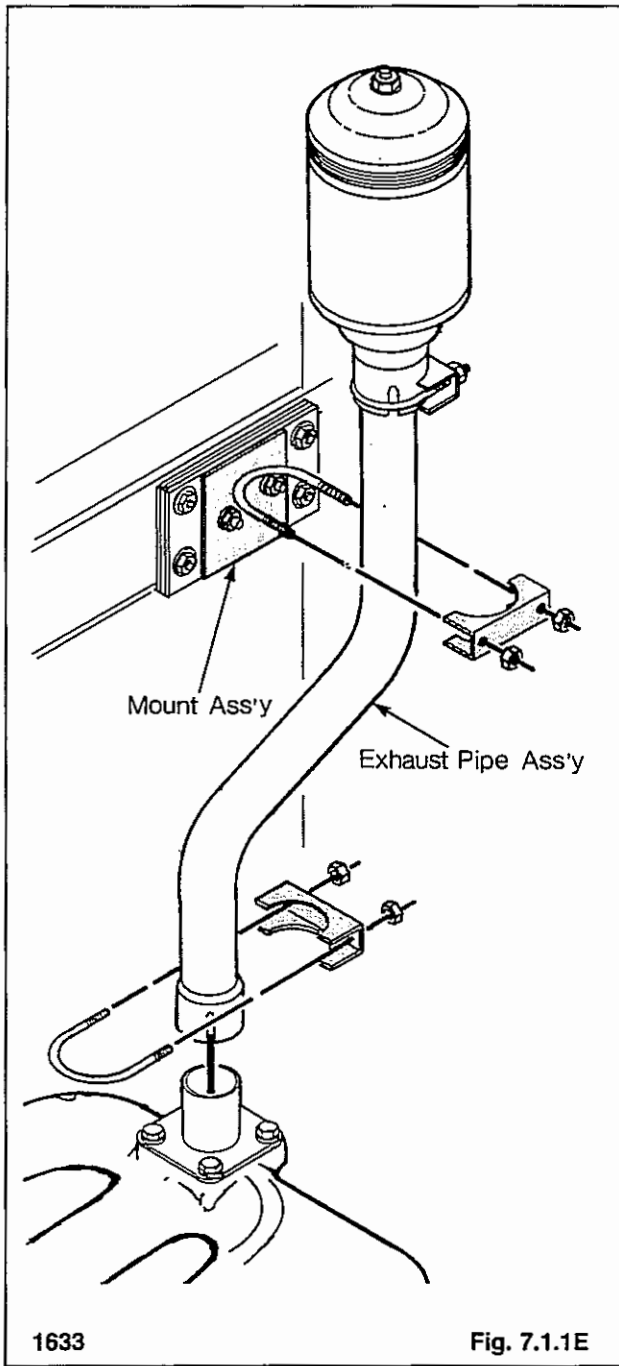

Fig. 7.1.1E
11. Remove the exhaust pipe (Fig. 7.1.1E).